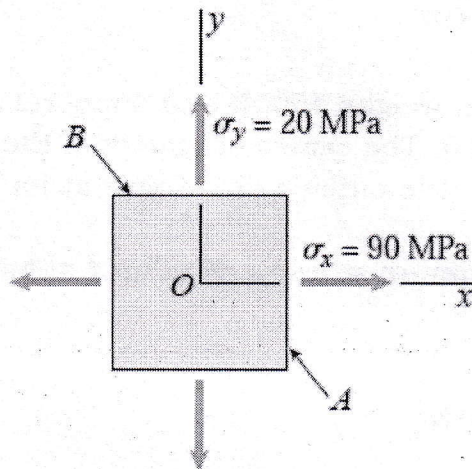

fig.8
- b) At a point on the surface of a pressurized cylinder, the material is subjected to biaxial stresses  $\sigma_x = 90 \text{ MPa}$ ,  $\sigma_y = 20 \text{ MPa}$ , as shown in fig.8. Determine the stresses acting on an element inclined at angle  $\theta = 30^\circ$  anticlockwise with vertical surface. [4]
- Q6 a) Refer Plane state of stress shown in fig.8 in the Q.5b. [6]